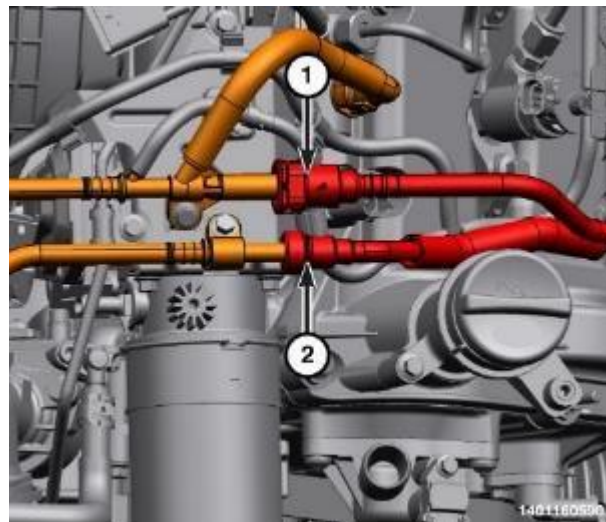

Figure 72 – Fuel Supply and Return Lines
124. Connect the fuel supply (2) and return (1) lines (Figure 72).